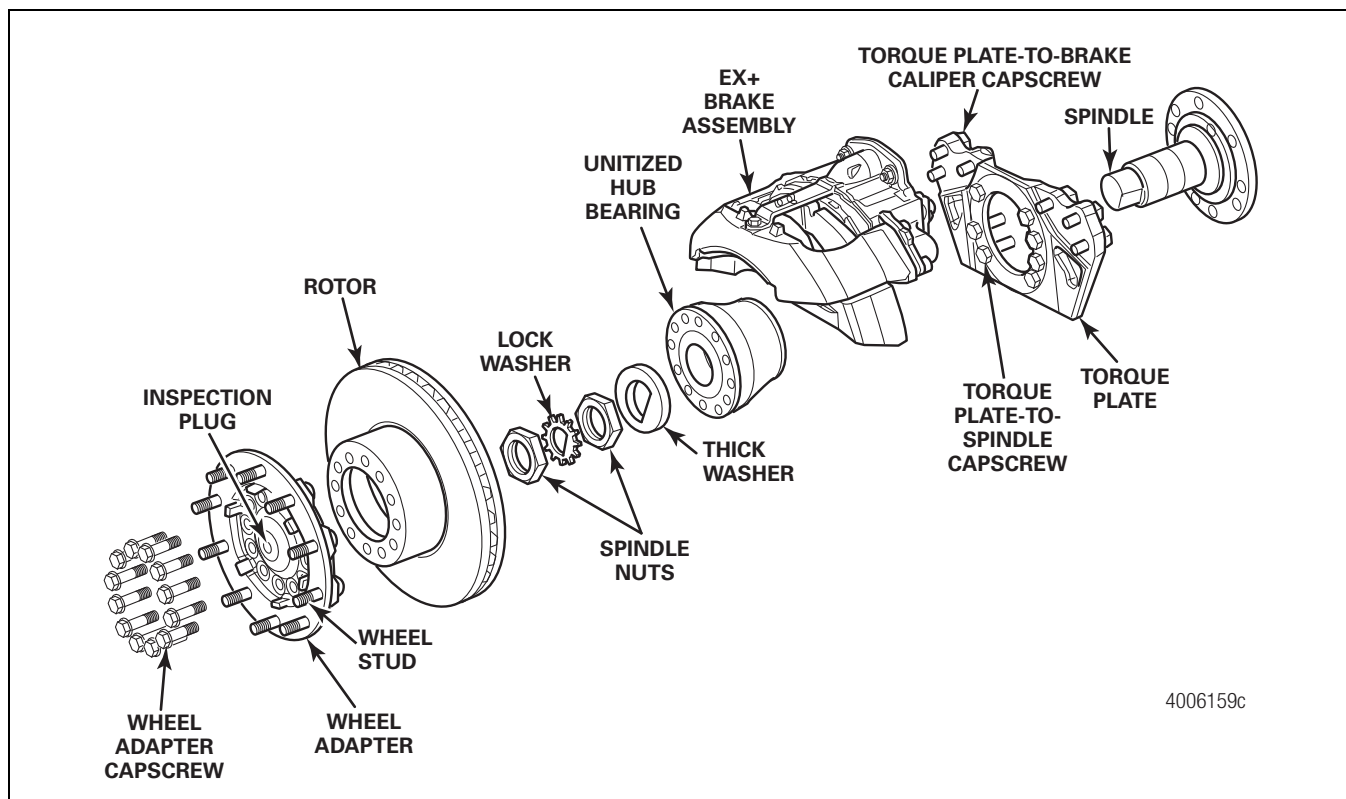

Figure 13.23
- Remove the wheel adapter and rotor. Inspect the rotor for cracks and signs of wear. Replace the rotor if necessary. Figure 13.23.